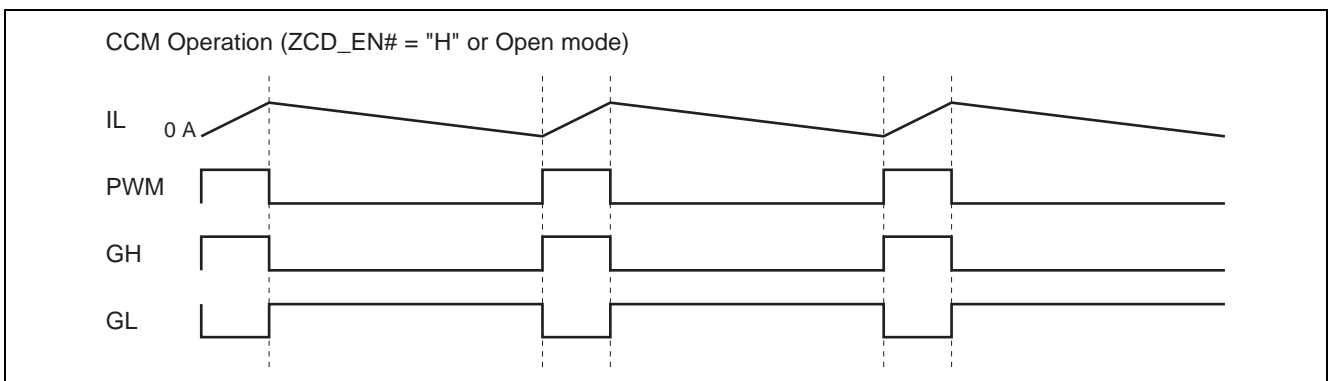
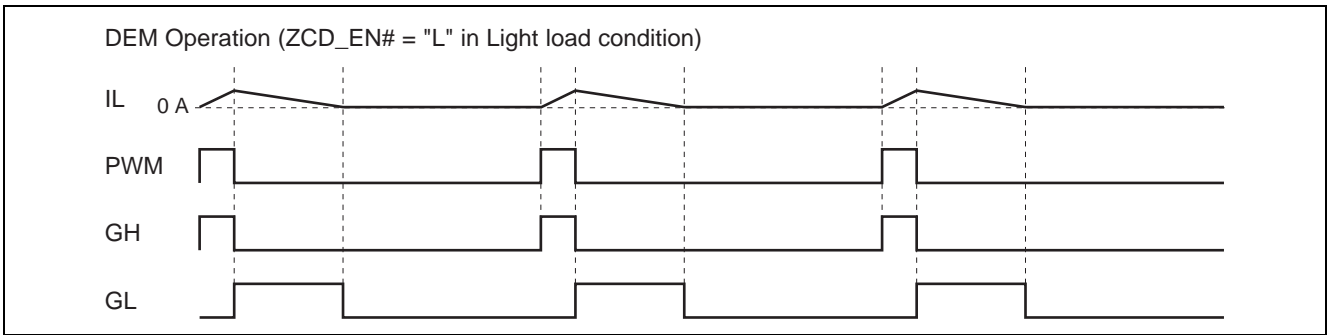

Figure 1.1 Typical Signals during CCM
Figure 1.2 Typical Signals during DEM
Figure 1.1 shows the Typical high side and low side gate switching and Inductor current (IL) during Continuous Conduction Mode (CCM), and Figure 1.2 shows DEM when asserting Zero Current Detection Enable signal.